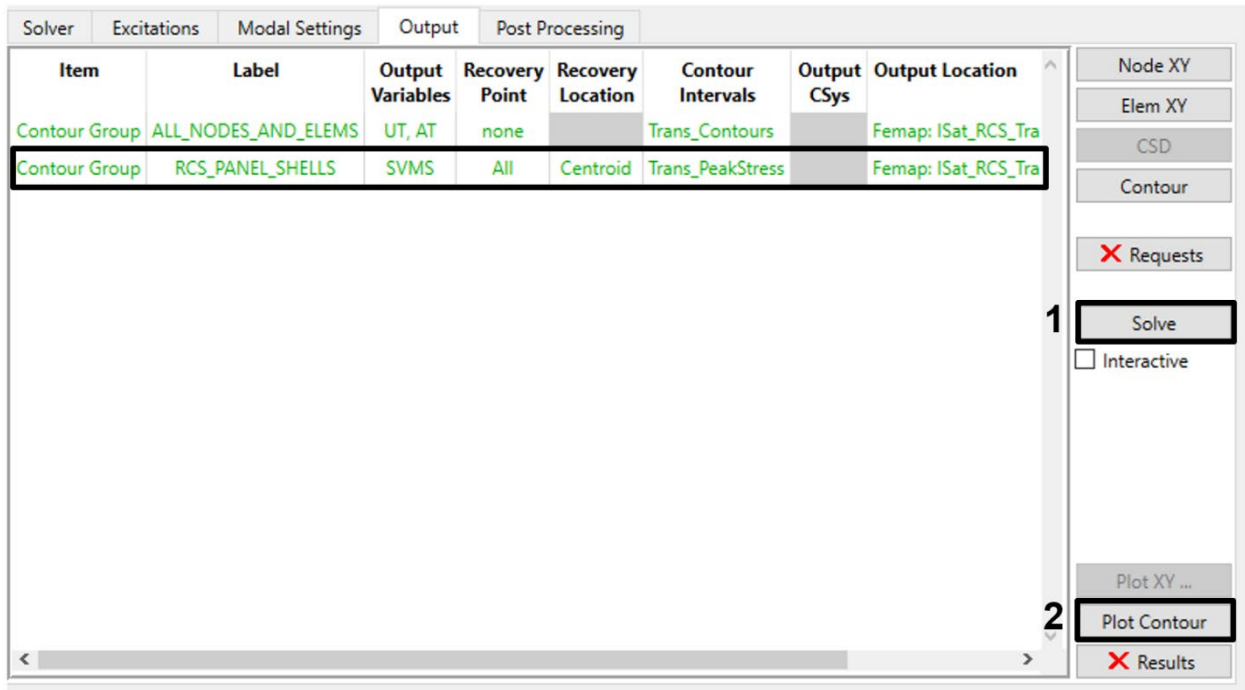
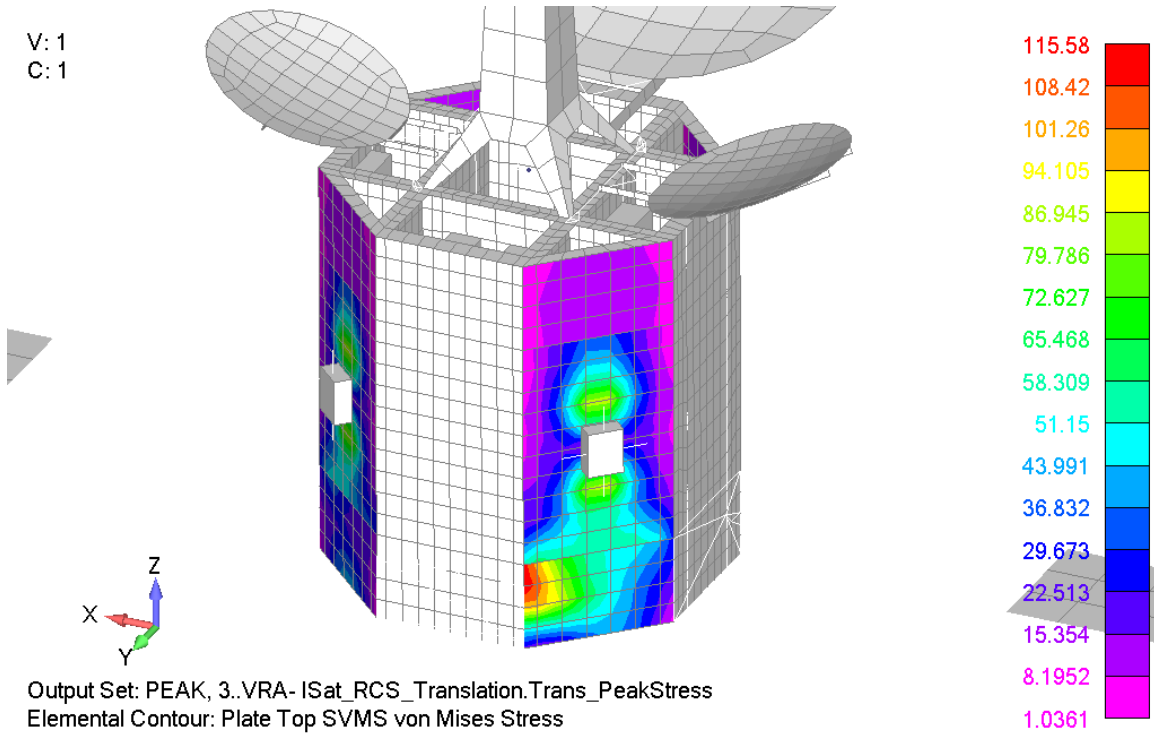
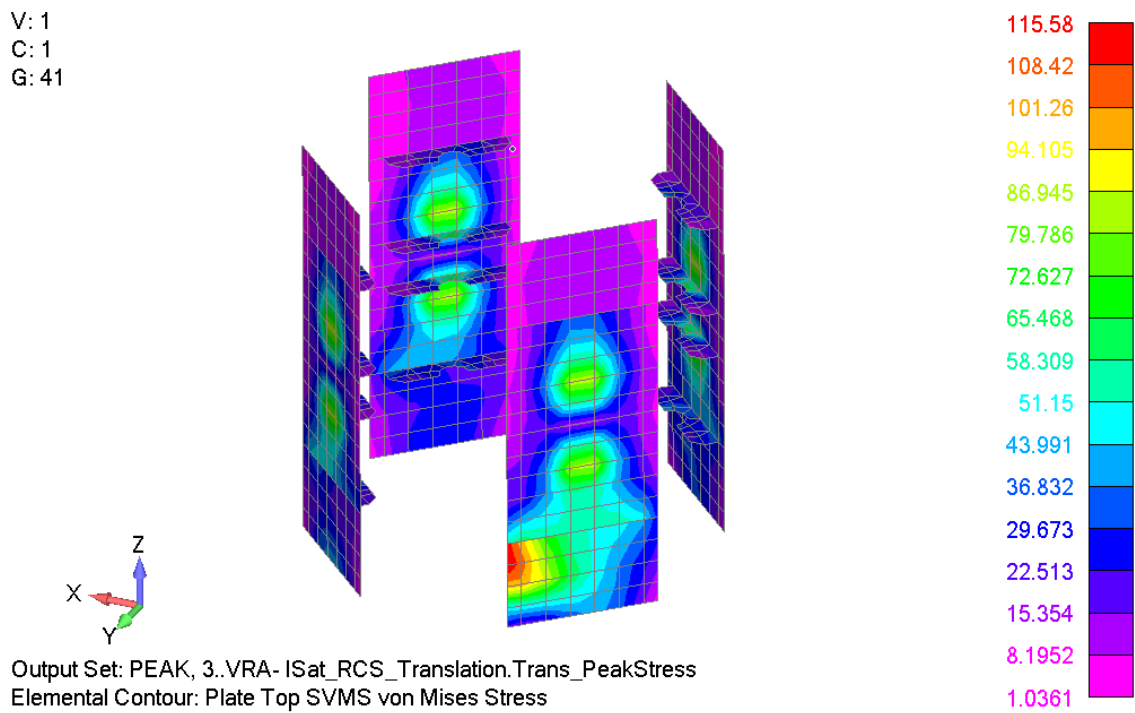

Figure 4-103. Select the RCS Panels contour request and plot its results.
Figure 4-104. Peak von Mises stress contours in RCS panels.
Figure 4-105. Von Mises results with only the RCS panels group displayed.
10. Solve the new contour request. When the solver finishes, select the new contour request in the table, then click **Plot Contour** (Figure 4-103). Vibrata will set Femap to display the results from the selected request (Figure 4-104). Since we only requested stresses for the RCS\_PANEL\_SHELLS group, you may want to display only that group (Figure 4-105).